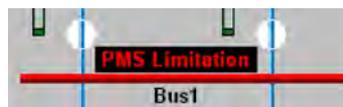

Figure 6.45: PMS Limitation
- bus becomes red-colored on the power mimic diagram and the inscription ‘PMS Limitation’ is indicated above the bus (Figure 6.45)